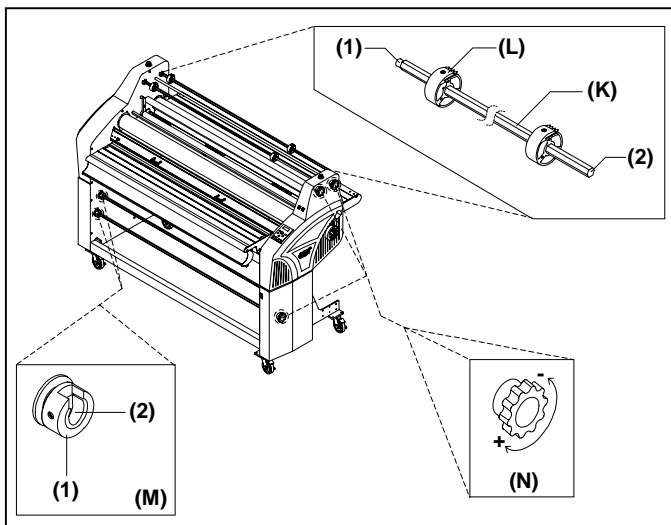

Fig. 18
**K. FILM SHAFT:** (Figure 18) The film shaft holds the film supply on the machine.
**L. CORE ADAPTORS:** (Figure 18) Hold and lock the rolls of film on the shafts to prevent side to side shifting.
**M. LOWER SHAFT LOCK:** (Figure 18) Secures the left side of the lower shafts. To remove a shaft, turn the outer dial (1) opening so it aligns with the inner u-channel (2) opening and lift up and out.
**N. UNWIND/REWIND TENSION:** (Figure 18) Used to apply resistance to the film shaft.